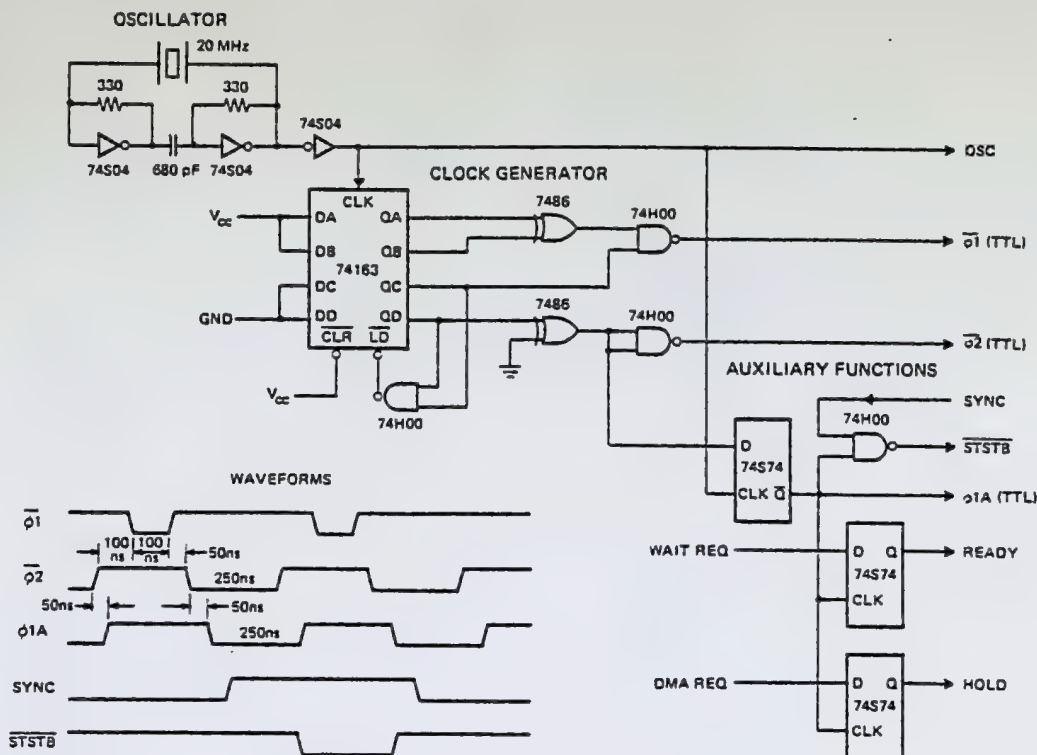

Figure 3-3. 8080 Clock Generator
The oscillator provides a 20 MHz signal to the input of a four (4) bit, presettable, synchronous, binary counter. By presetting the counter as shown in figure 3-3 and clocking it with the 20 MHz signal, a simple decoding of the counters outputs using standard TTL gates, provides proper timing for the two (2) 8080 clock inputs.
The Clock Generator diagram also shows how to generate an advanced timing signal ($\phi 1A$) that is handy to use in clocking "D" type flipflops to synchronize external requests. It can also be used to generate a strobe (\overline{STSTB}) that is the latching signal for the status information which is available on the Data Bus at the beginning of each machine cycle. A simple gating of the SYNC signal from the 8080 and the advanced ($\phi 1A$) will do the job. See Figure 3-3.